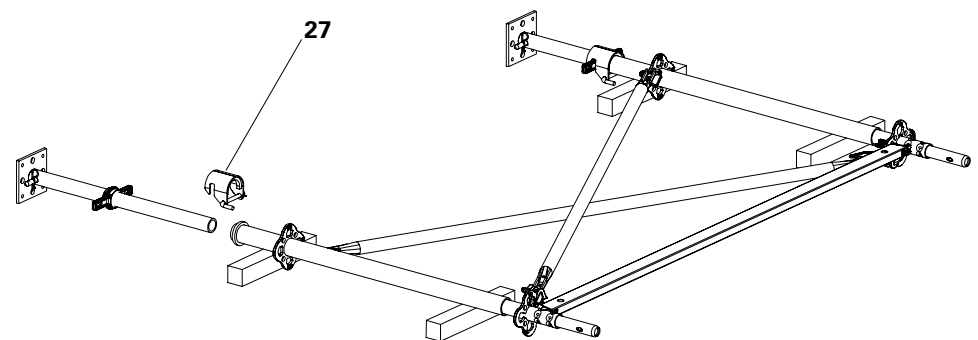

Fig. A3.07a
3. Insert the prepared Adjustable Base Plates in the Base Standards (25) and secure with Spindle Locking (27). (Fig. A3.07a)